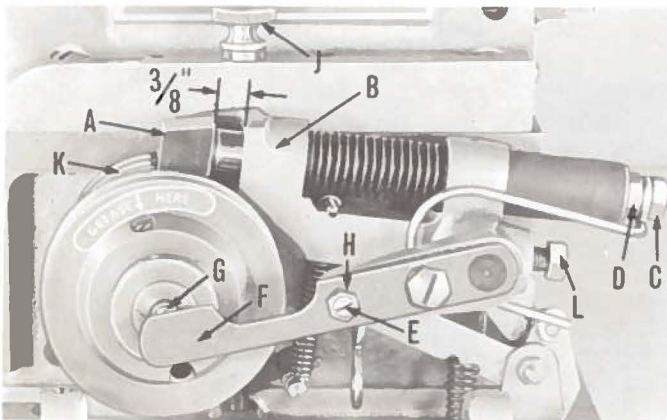

Fig. 1
This position is that which is shown in Fig. 1 with the stop motion disc and pawl (K) against the plunger (A).
With the machine in stop position, the stop motion plunger (A, Fig. 1) should be set so that there is $\frac{3}{8}$ inch clearance between the bottom of the plunger and the plunger lever bracket (B). Loosen the back lock nut (C) and adjust the front nut (D) to obtain this setting. Lock the back nut. Adjust screw (E) in cam lever (F) so that there is $\frac{1}{32}$ inch clearance between ball (G) and the thin section of lever (F) when the pulley is pressed in towards machine. Lock screw with nut (H). Make sure that set screw (L) is securely tightened.
Depress treadle to take machine out of stop position and rotate pulley two complete revolutions in operating direction. Loosen knurled screw (J, Fig. 1) and lay machine on its side.